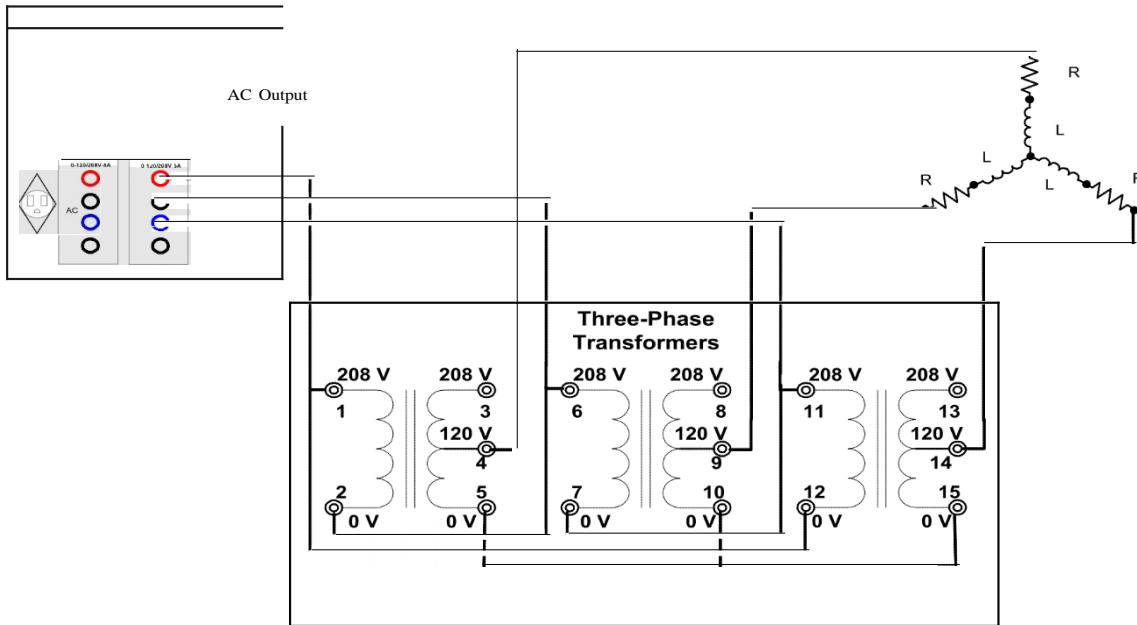

FIGURE 5.14
Step 1: Connect the circuit shown in Figure 5.14. Neutral connection will not be used. Use the variable output of the power supply as your power source. The single-phase transformer ratio to be used is #3:1. Adjust the power supply line-to-line voltage to 120 V.  $R=771.4D$  and  $L=300D$